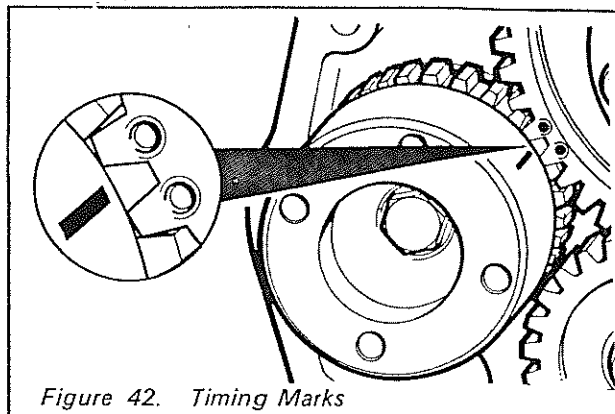

Figure 42. Timing Marks
3. Carefully replace the camshaft through the gear end of the crankcase. If the crankshaft gear is fitted ensure that the timing marks on both gearwheels are correct as shown in Figure 42.